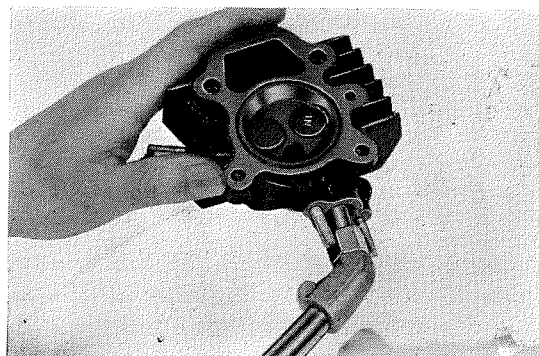

Fig. 28
4. Assemble the valve into the cylinder head so that the valves are well seated and fill the cylinder head combustion chamber with oil, inject a blast of air in from the inlet and exhaust ports and if any bubbles should appear, it is an indication that the valves seats are not completely sealed. (Fig. 28)